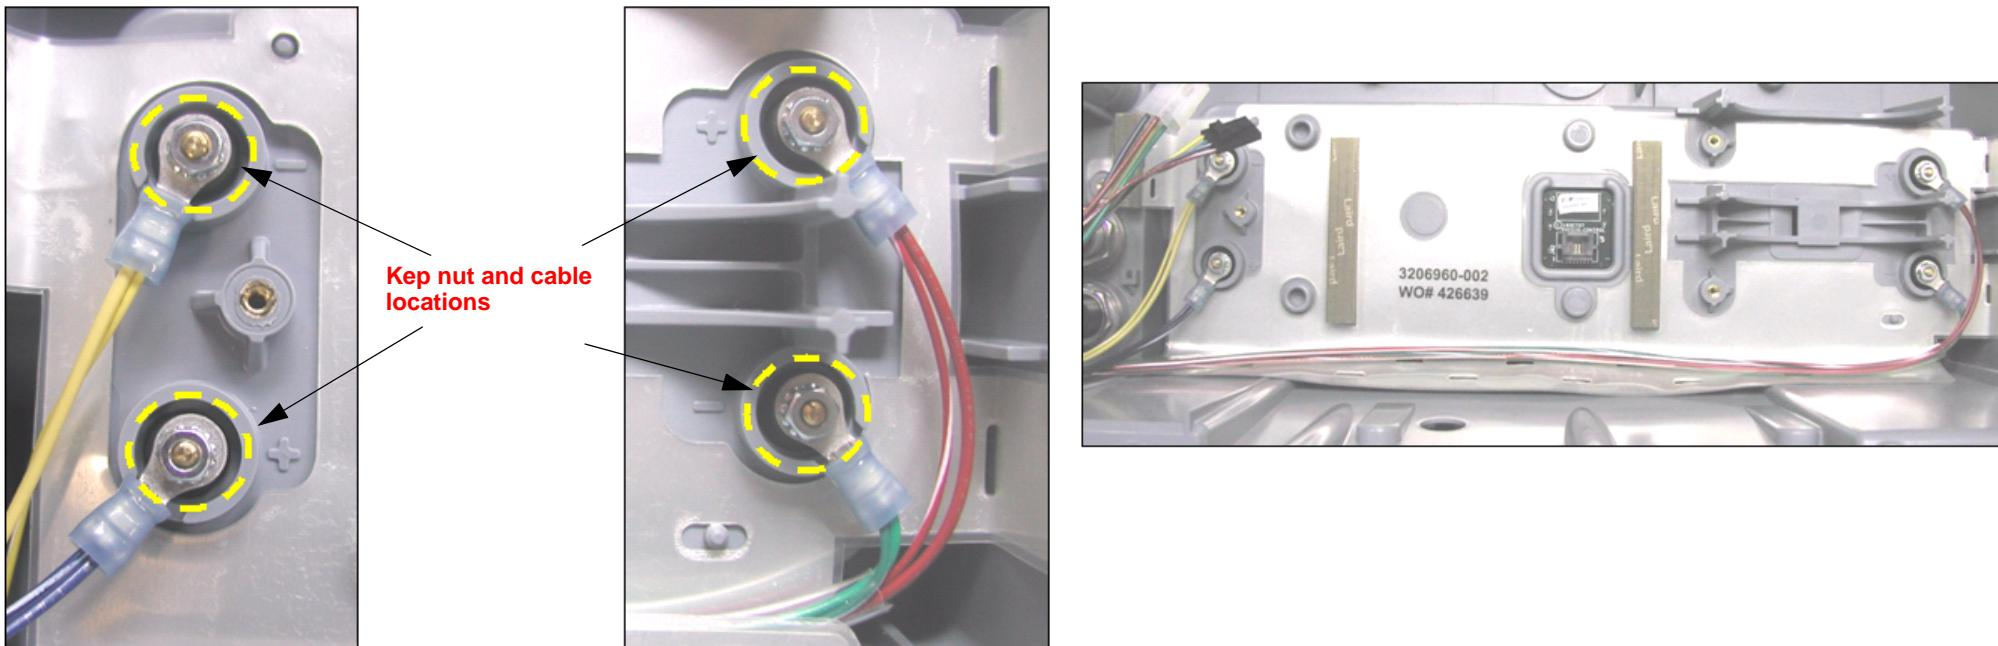
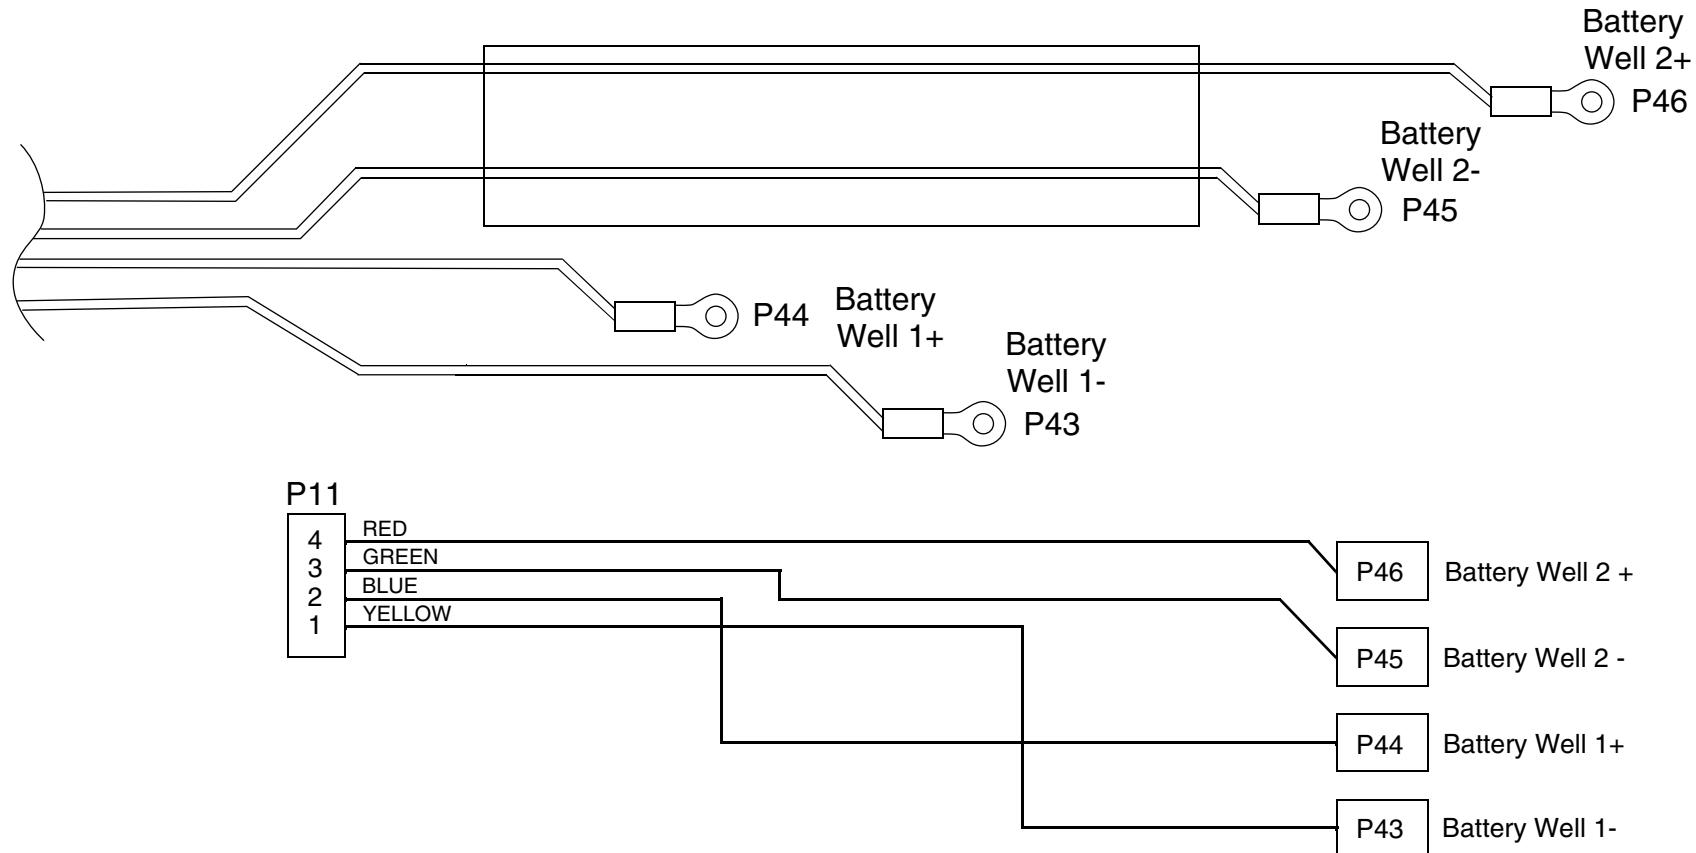

Figure 8.97—Power PCB cable Kep nut and cable locations
Figure 8.99—V2 (REF 21330-001555)
Refer to Figure 8.97 on p. 320 and Figure 8.86 on p. 291.
2. Connect terminals P43 and P44 at Battery Well 1, and P45 and P46 at Battery Well 2 and replace the four Kep nuts (REF 21300-000804) (torque to 4.0 in-lb using 1/4" socket and drive adapter). See Figure 8.97 on p. 320 and Figure 8.99 on p. 324 .